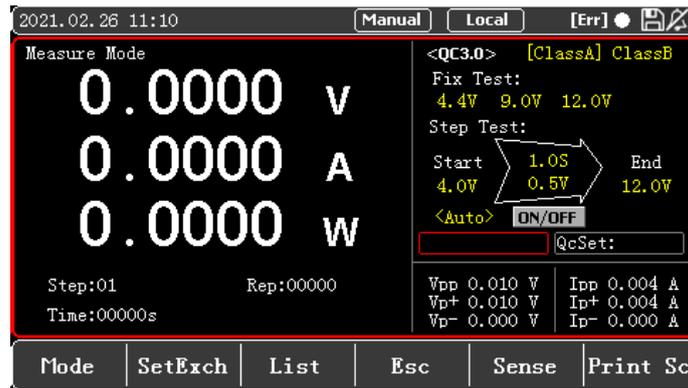

Figure 5-2 <QC3.0> Setting and Display Interface
If the handshake is successful, the status will be displayed as [OK], as shown in the upper right corner of Figure 5-2, otherwise it will be displayed as [Err].
- For single point test, there are two selection areas: Class A and Class B. Press the  key to enter the Class selection area, use the knob and left/right keys to select Class A (5V/9V/12V voltage can be set) or Class B (5V/9V/12V/20V voltage can be set). Then press  key to enter the voltage setting area, use the knob and up/down keys to select the voltage to be triggered, and press the enter key  to trigger. If the trigger is successful, the voltage display value will change accordingly, and then press the ON button on the panel to load. If the load is successful, the ON button indicator light will be green, the correct voltage and load value will be displayed on the screen, and the OK symbol will be displayed at the upper right of the screen, as shown in Figure 5-2, which is the interface after the successful 4.4V/0.500A load. If Err appears on the upper right of the screen during the loading process, users need to check whether the loaded value and the test parameter value exceed the specification range of the loaded object and need to be reset.
- The step test function is used to test the performance of the object under test by continuously triggering different voltage points in automatic/manual mode. The parameters that can be set include: start voltage, step voltage, step time, end voltage, and step mode. As shown in Figure 5-2, users can set the start voltage of 3.6V, end voltage of 5.0V, step voltage of 0.2V, and step time of 1.0S. There are two kinds of stepping modes: automatic and manual. Use the up/down keys to select <auto>, and